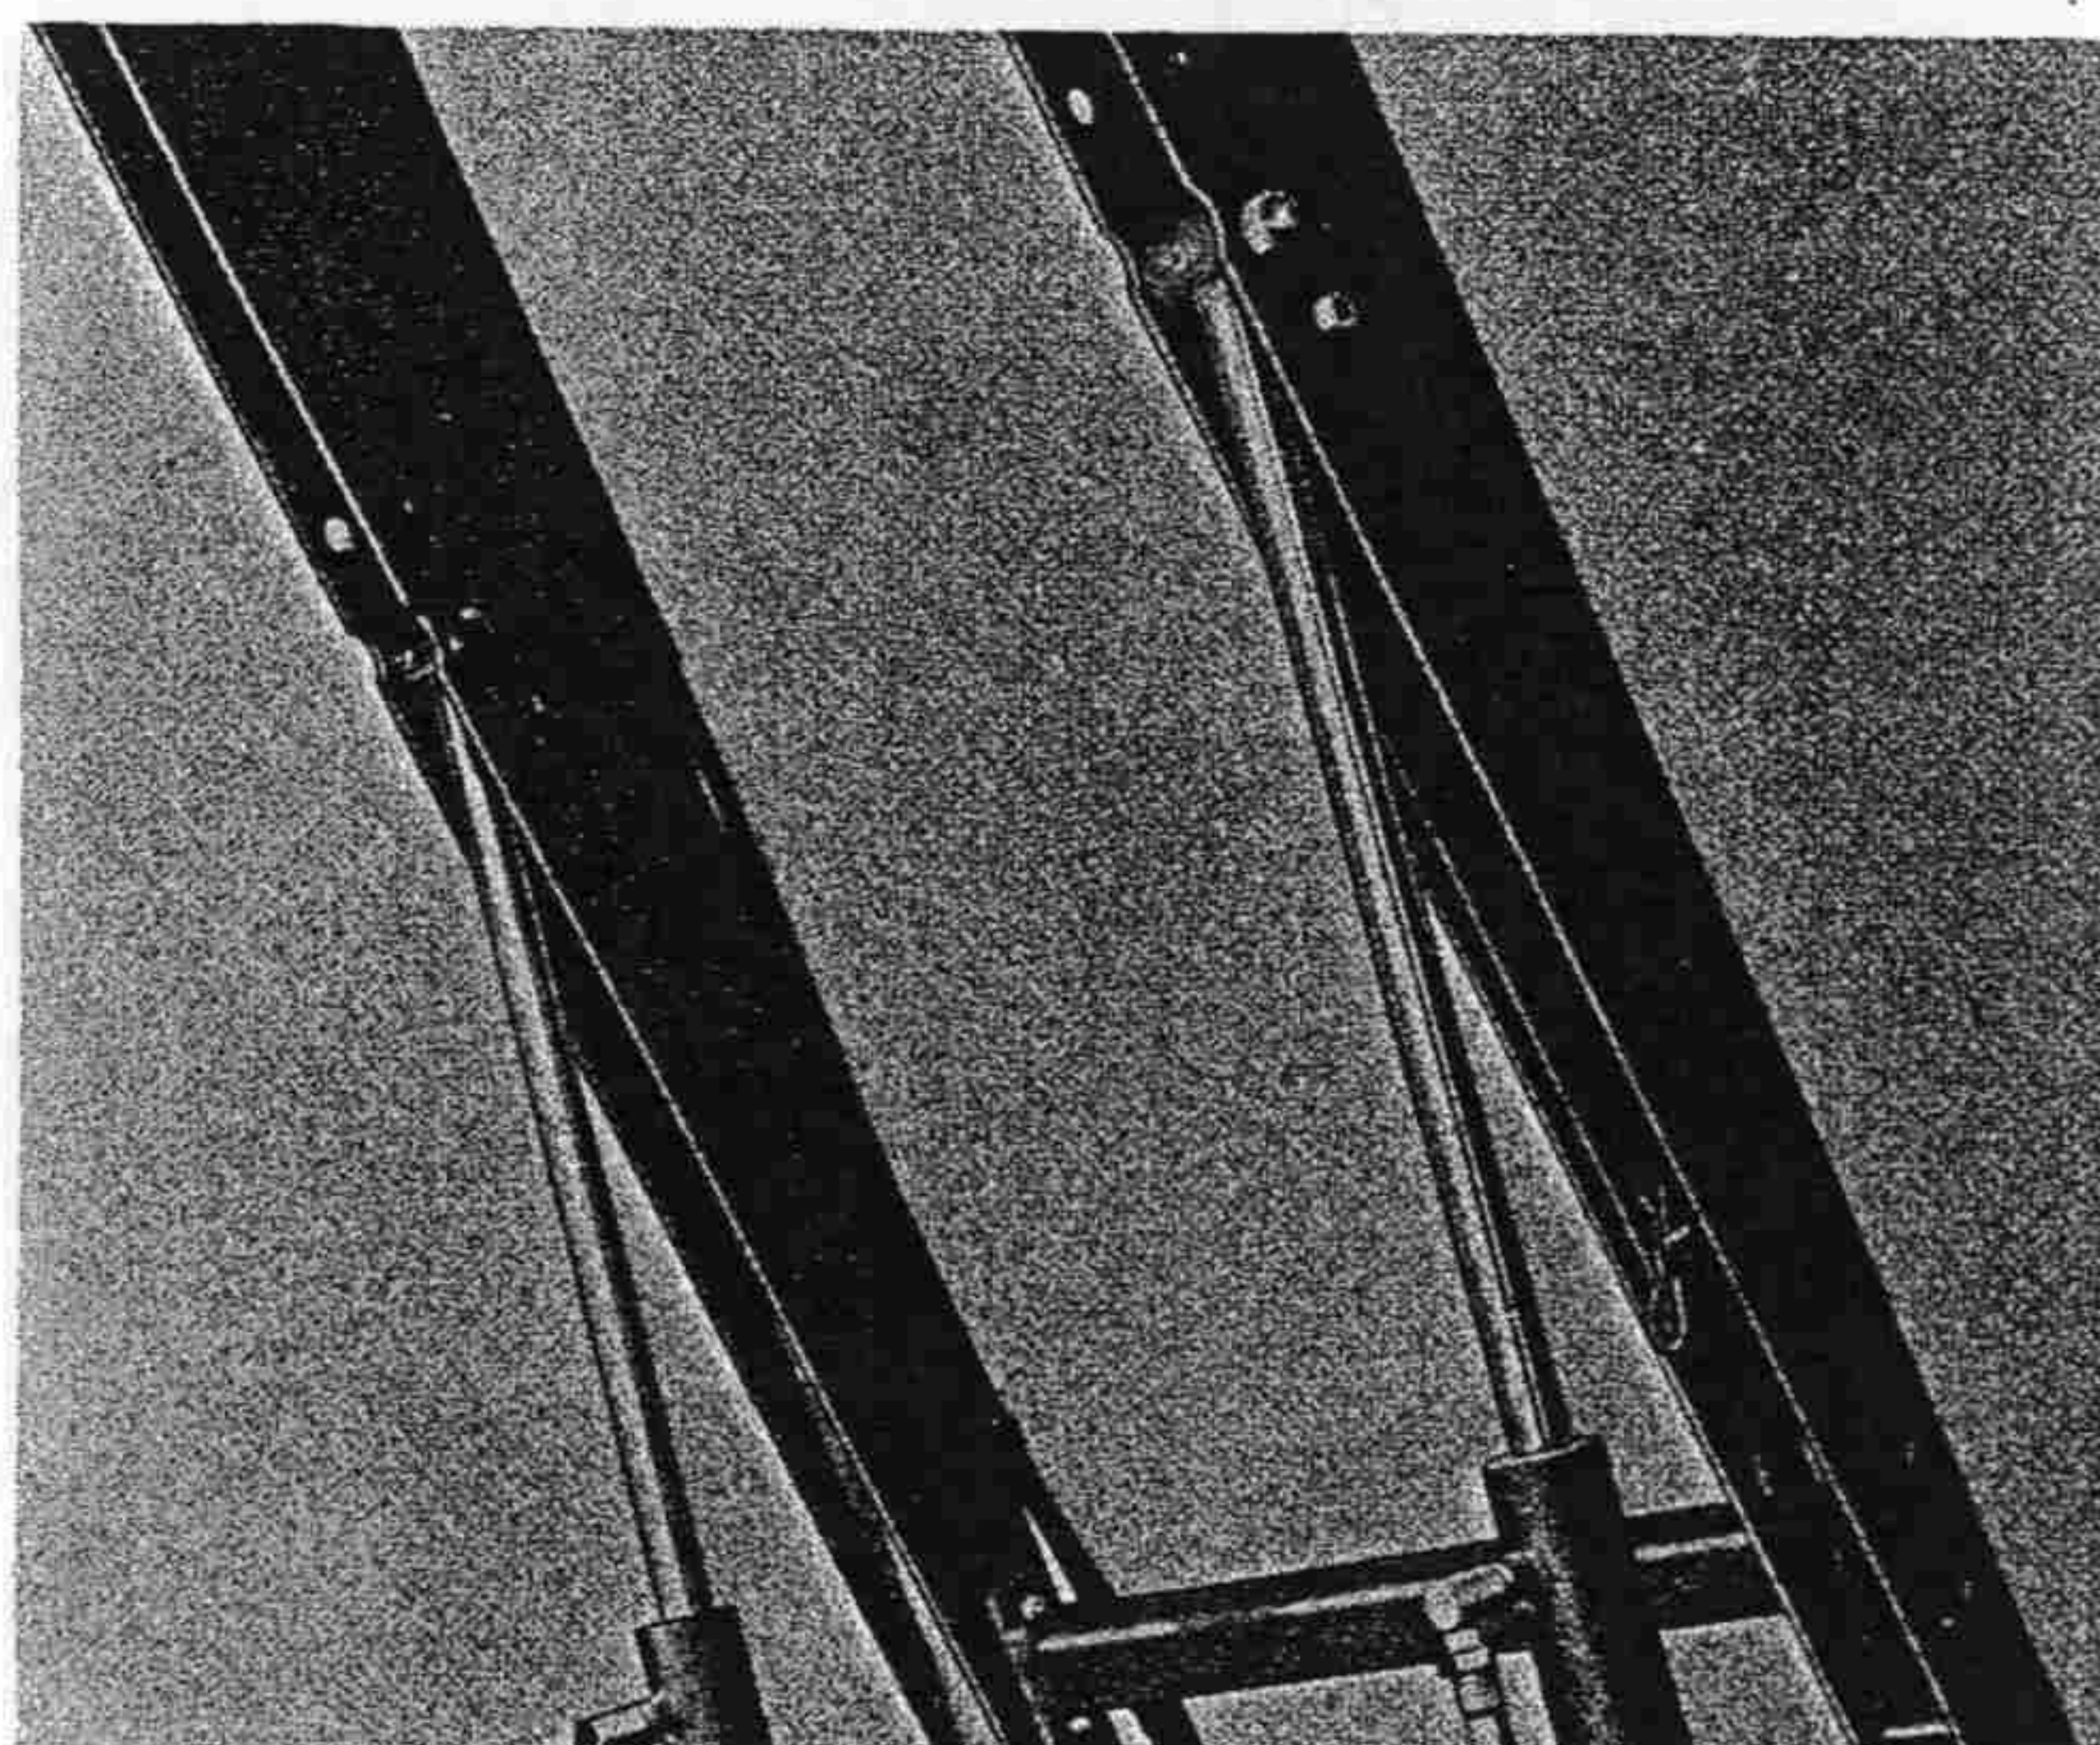

Fig. 5
6. When not in use secure Lift Arm Lock in storage position. (Fig. 5).